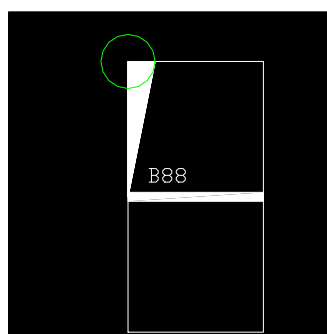

fig. 7: design assistance end profile symbol
*It is important to match the end profile symbols accurately with the track termination and the module corner points. For positioning, the same function which is used for the alignment of modules proves to be useful (Modify, 3D Operation, Align). In the case of deviations additional catching points occur, which may cause errors during the module adjustment. A small trick facilitates the drawing of the end profile symbols, in particular when using curve modules. Draw a circle with a 50 mm radius round the module corner point. The intersection between circle and module box is the third corner point for the B-profile north side, next to the track termination point and the module box corner point (fig. 7).*